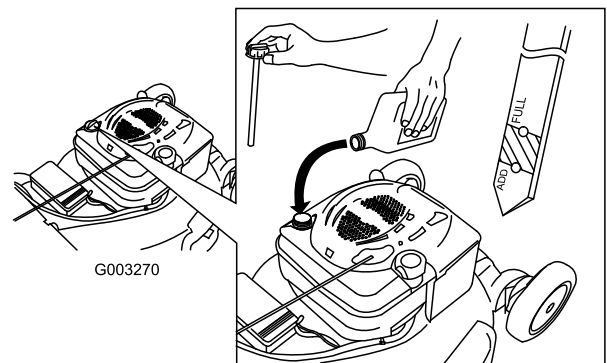

Figure 39
4. **Slowly** pour oil into the oil fill tube until the oil level reaches the Full line on the dipstick (Figure 39). **Do not overfill.** (Max. fill: 20 oz. (0.59 l), type: SAE 30W detergent oil with an API service classification of SF, SG, SH, SJ, SL, or higher.)